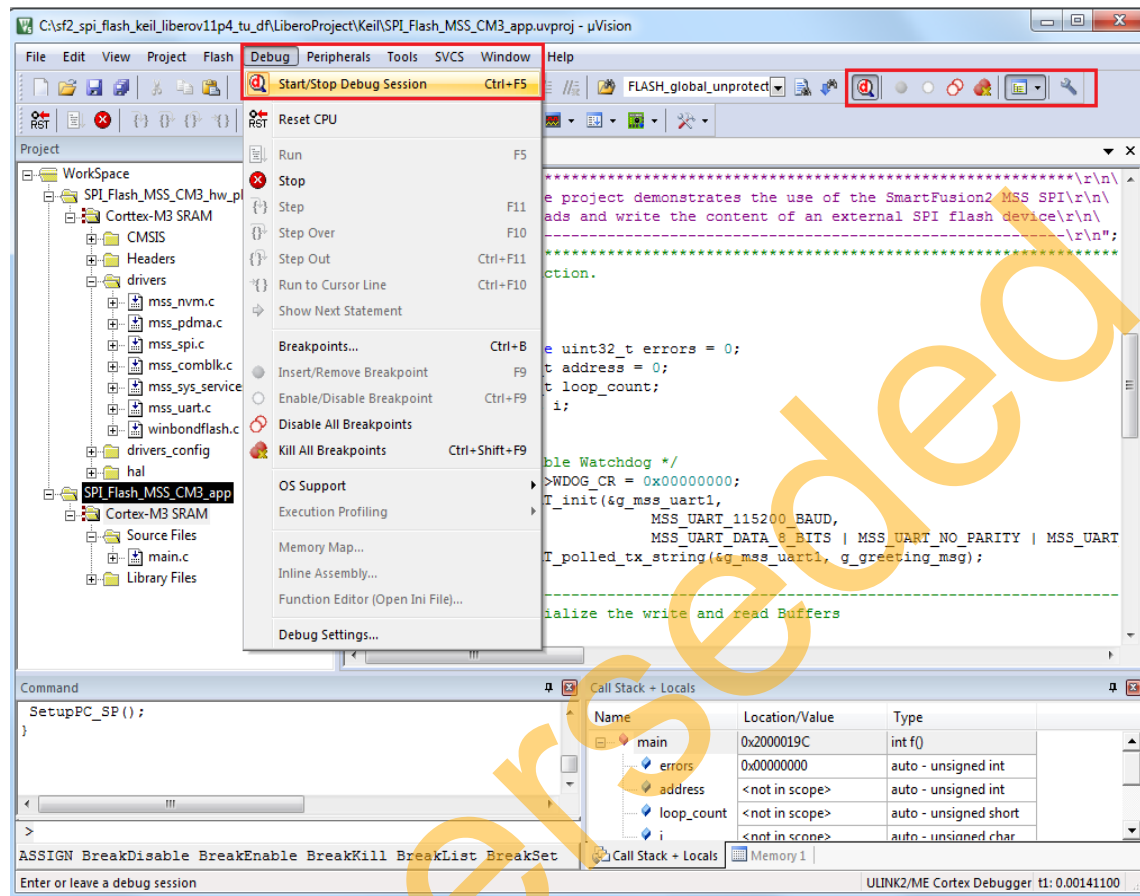

Figure 44 • Keil uVision Workbench - Stop Debug Option
4. When debug process is finished, terminate execution of the code by choosing **Debug > Start/Stop Debug Session** as shown in Figure 44.